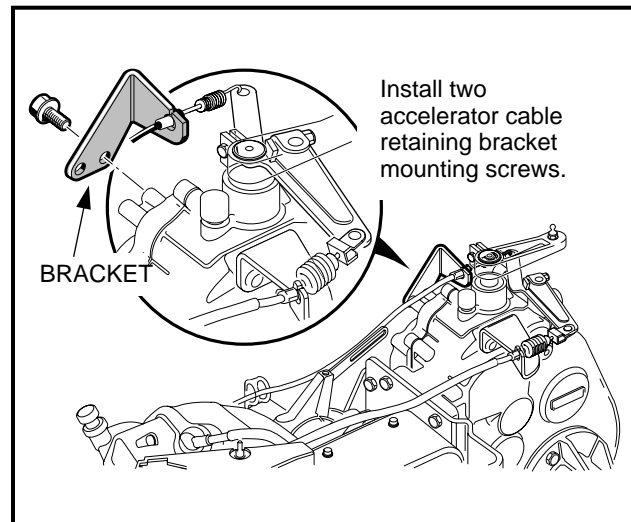

Figure 16-86 Accelerator Cable Bracket
6. Install the accelerator cable bracket on transaxle case. Tighten the mounting screws to 134 in-lb (15.1 N·m) (**Figure 16-86, Page 16-35**).